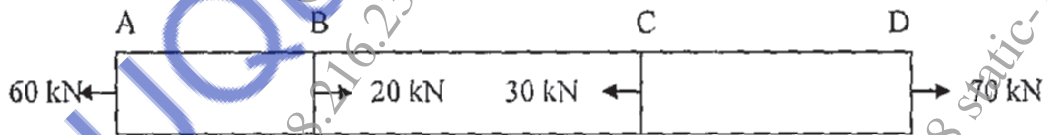

Figure 1
- Q1) a) A square bar ABCD of uniform cross section 30×30 mm dimension is subjected to loads as shown in Figure 1. Find the total elongation of the bar and the maximum stress in the bar. If $E = 200$ GPa. Length of members AB = 500 mm, BC = 1100 mm, CD = 900 mm respectively. [7]